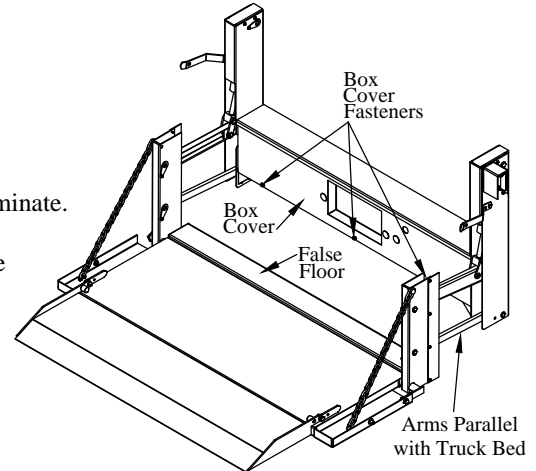

Figure 1: Box cover and fasteners.
- 2. REMOVE** the box cover fasteners (Figure 1).
- B) Push** the hidden "LIFTGATE ACTIVATED" switch twice within one (1) second. The red "LIFTGATE ACTIVATED" LED will illuminate. With both lights on, the liftgate can be raised or lowered. If not used for 90 seconds, the control will automatically shut off.
- 5. LOWER** the liftgate until the arms are parallel with the truck bed (Figure 1)